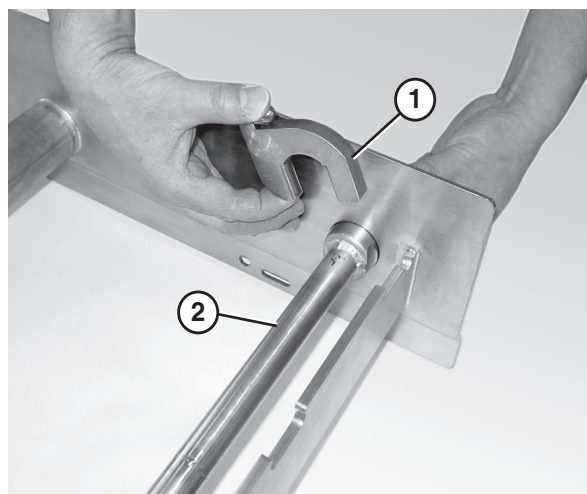

Figure 26
2. Attach the key stops (Figure 26, item 1) to the tip up shaft (Figure 26, item 2). The rounded end of the key stop should face the tail.